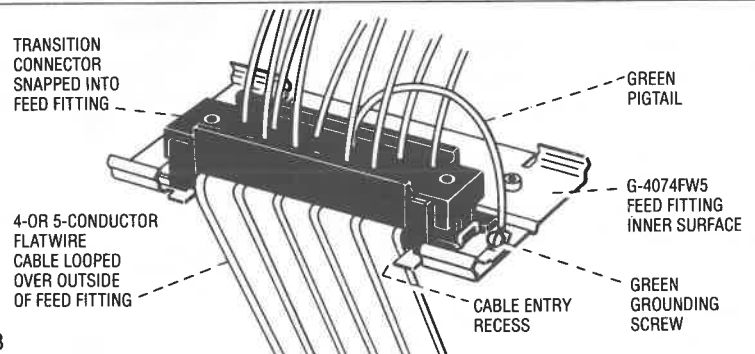

Fig. 13
A. Snap transition connector onto inner surface of feed fitting and connect one green pigtail to green grounding screw on inner surface as in Fig. 13.